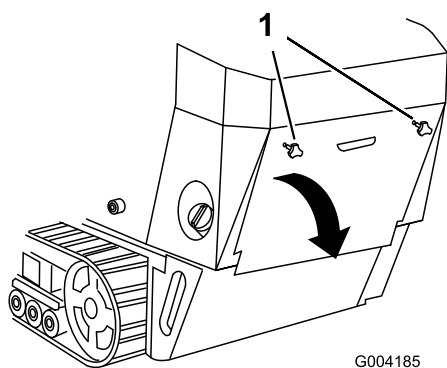

Figure 23
1. Unscrew the 2 hand knobs securing the rear access cover to the machine (Figure 23).
2. Tilt the rear access cover down and remove to access the internal components (Figure 23).